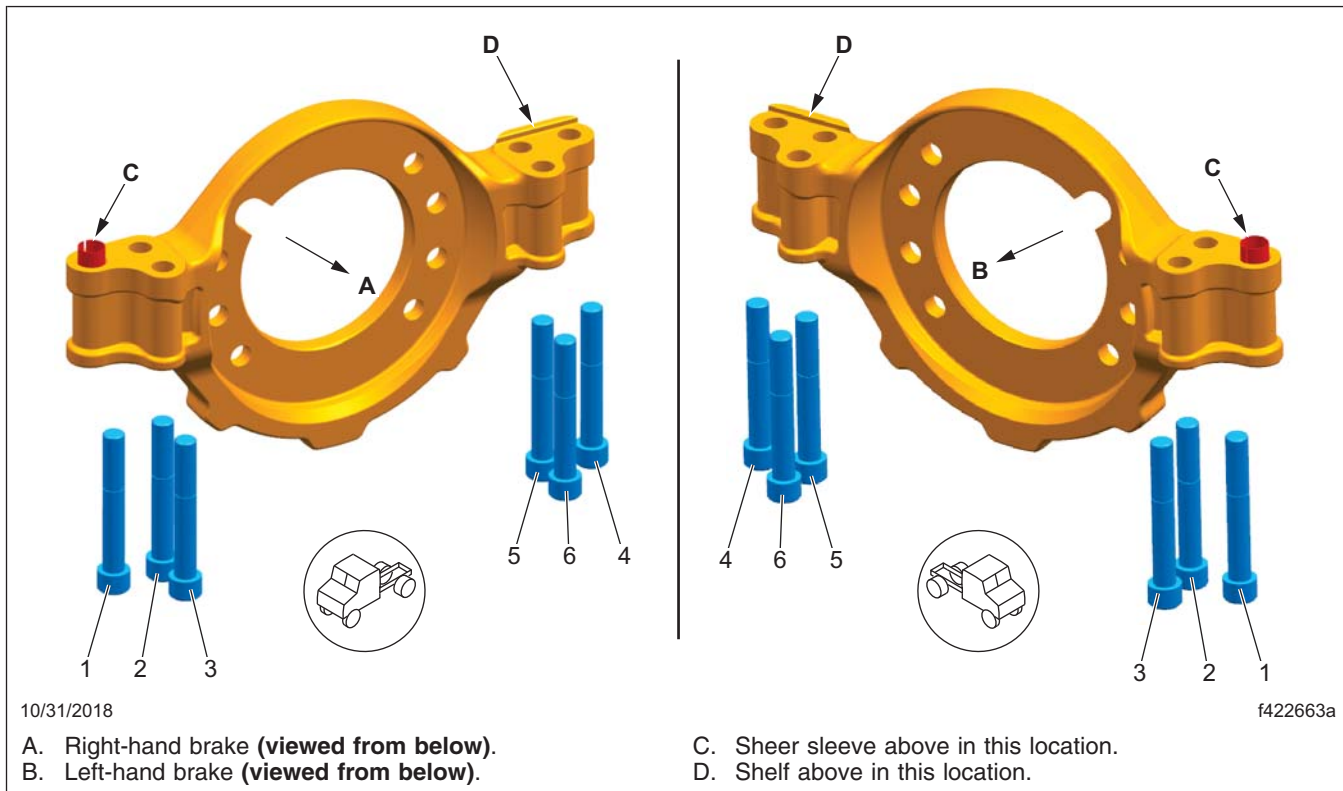

Fig. 7, Bendix Radial Mounted Caliper Tightening Pattern (viewed from below)
4. Set a torque wrench to 200 lbf·ft (271 N·m) and tighten the caliper mounting bolts following the tightening pattern shown in **Fig. 7**. If they do not turn, no further work is needed. If they turn, take the vehicle to an authorized Freightliner dealer to have all of the caliper bolts on that wheel end replaced.